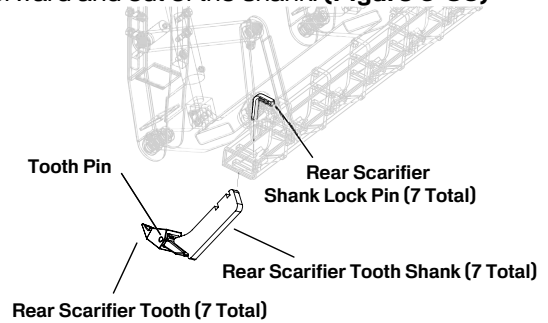

Figure 5-35. Rear Scarifier Tooth
2. Raise and support the rear scarifier frame (**Figure 5-35**).
1. Raise and support the scarifier frame (**Figure 5-35**).